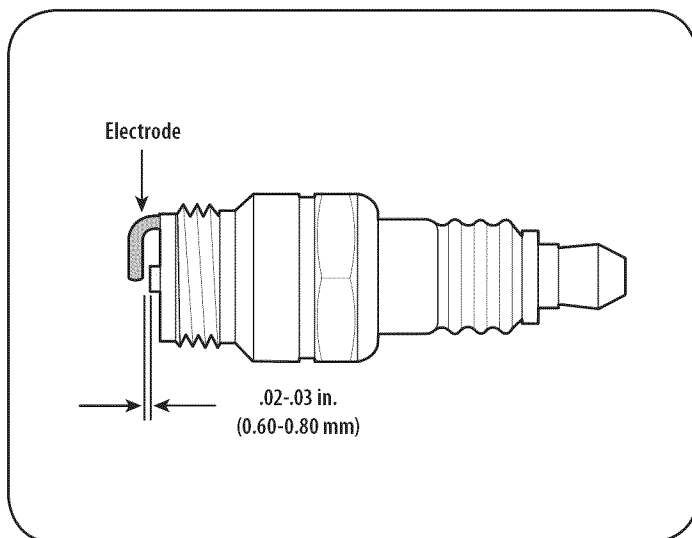

Figure 23
3. Measure the plug gap with a feeler gauge. Correct as necessary by bending side electrode. See Figure 23. The gap should be set to .02-.03 inches (0.60-0.80 mm).